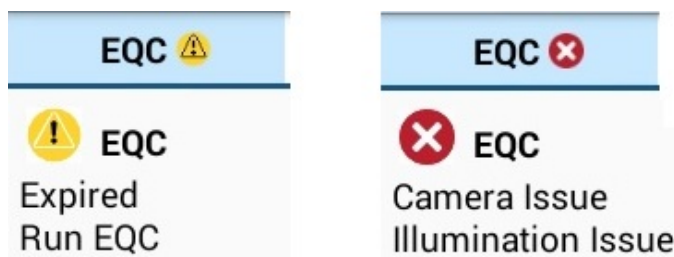

Figure 50 – The Quality Control screen. LQC testing is not allowed, either because the EQC interval timer expired or because the previous EQC test failed.
- **View details of the test result** – Select . Details of the test result are displayed. See Figure 50.